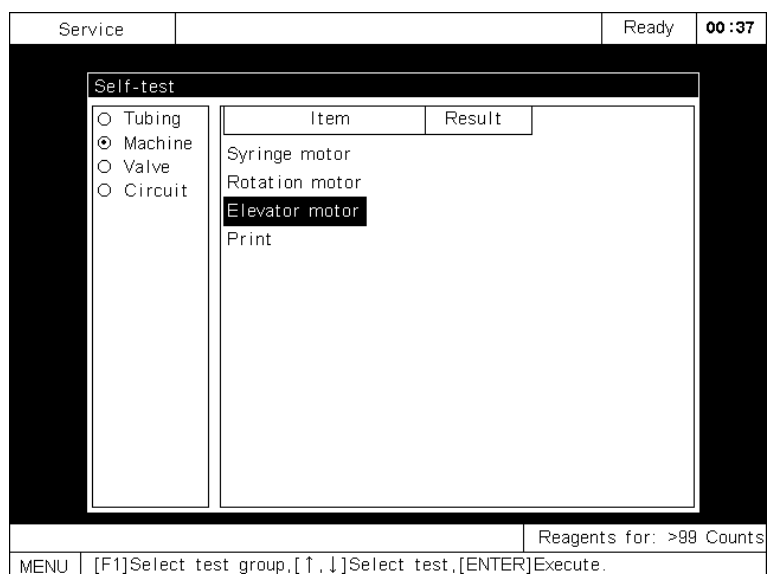

Figure 8-30 Testing elevator motor
The relative position between the sample probe and probe wipe block has influence on the analysis results. In the accessory box, there is a sample probe localizer, as Figure 8-30 shows. You need to use the localizer to adjust the position of the sample probe if you have replaced wipe block, or observed motor error, or wrong analysis result. Also, as required by regular maintenance, you should use the localizer to adjust the position of the sample probe monthly.
3. Press [F1] to select the **Machine** group and press [] or [] to move the cursor to Elevator motor, as Figure 8-30 shows.